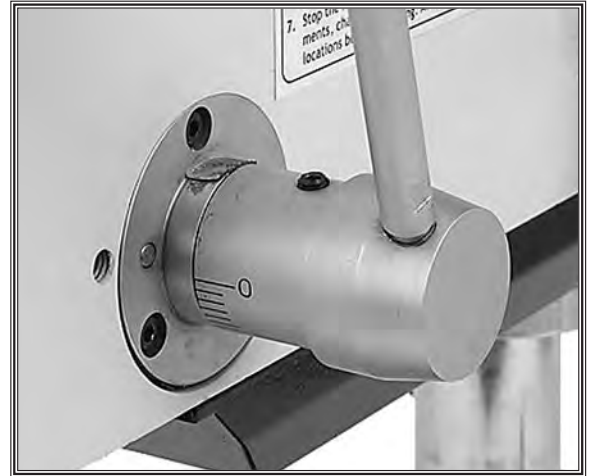

Figure 18. Depth stop.
2. To set the quill to repeat the same depth, rotate the graduated dial (**Figure 18**) past the 0 mark until it stops, then tighten the set screw.